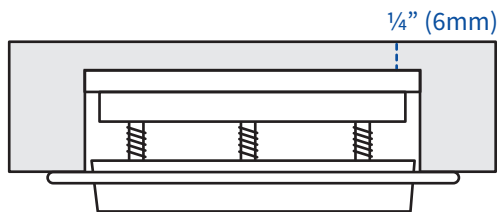

Figure 6d. ChargeSpot placement in recessed hole
- From the underside of the substrate, place the ChargeSpot with the attached mounting plate into the recessed hole (Figure 6d).